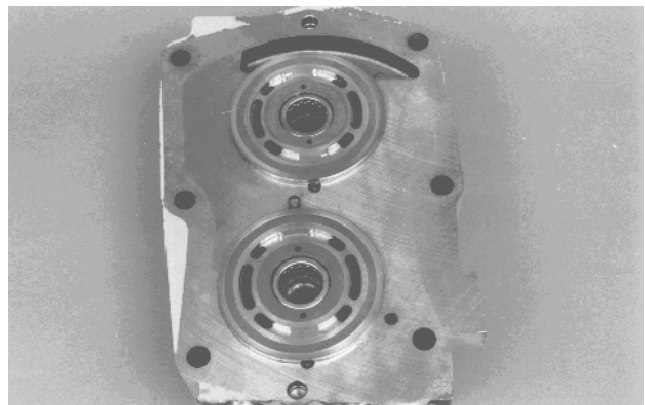

Figure 44
5. Carefully remove valve plates from center section. It may be necessary to pry valve plates off with a small screwdriver (Fig. 44).